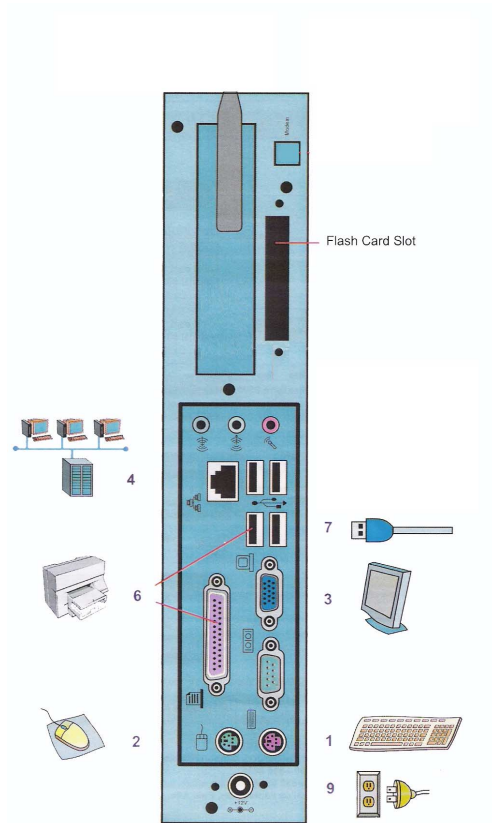

Figure 1. AIC Connectors for Rev B
6. Connect one end of the network crossover cable (Part Number G4690-60000) to the computer and the other end to the main network port of the Agilent Instrument Controller if more than one network port is available. (See Figure 1.)